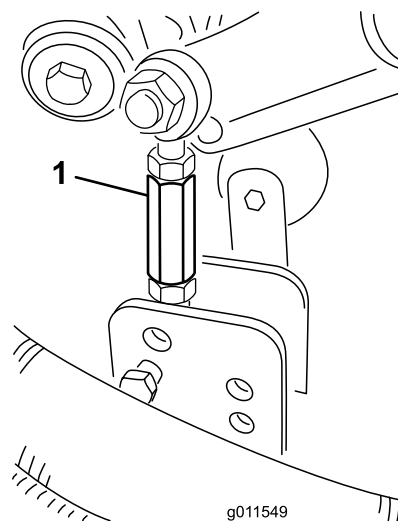

Figure 23
10. Remove the hairpin cotters and clevis pins securing the damper links to the cutting-unit brackets (Figure 23).